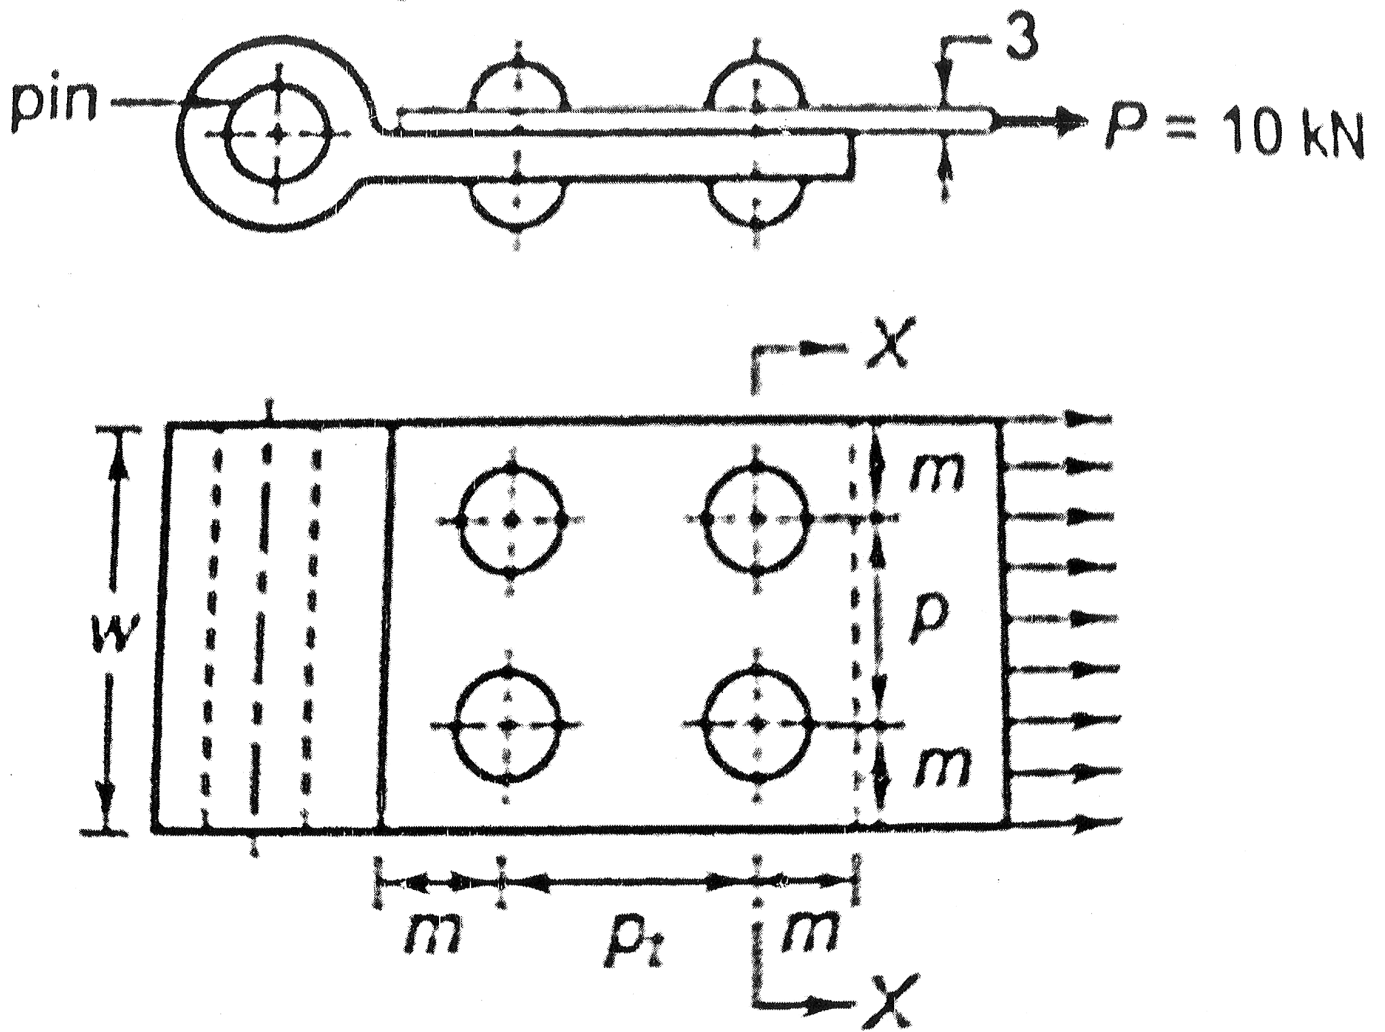

Fig. 6
7. A brake band attached to the hinge by means of a riveted joint as shown in Fig. 6. Determine the size of the rivets needed for the load of 10 kN. Also, determine the width of the band. The permissible stresses for the band and rivets in tension, shear and compression are 80, 60, 120 N/mm² respectively. Assume, margin (m) = 1.5 d, transverse pitch (p_t) = p. Find the pitch of the rivets. (20)